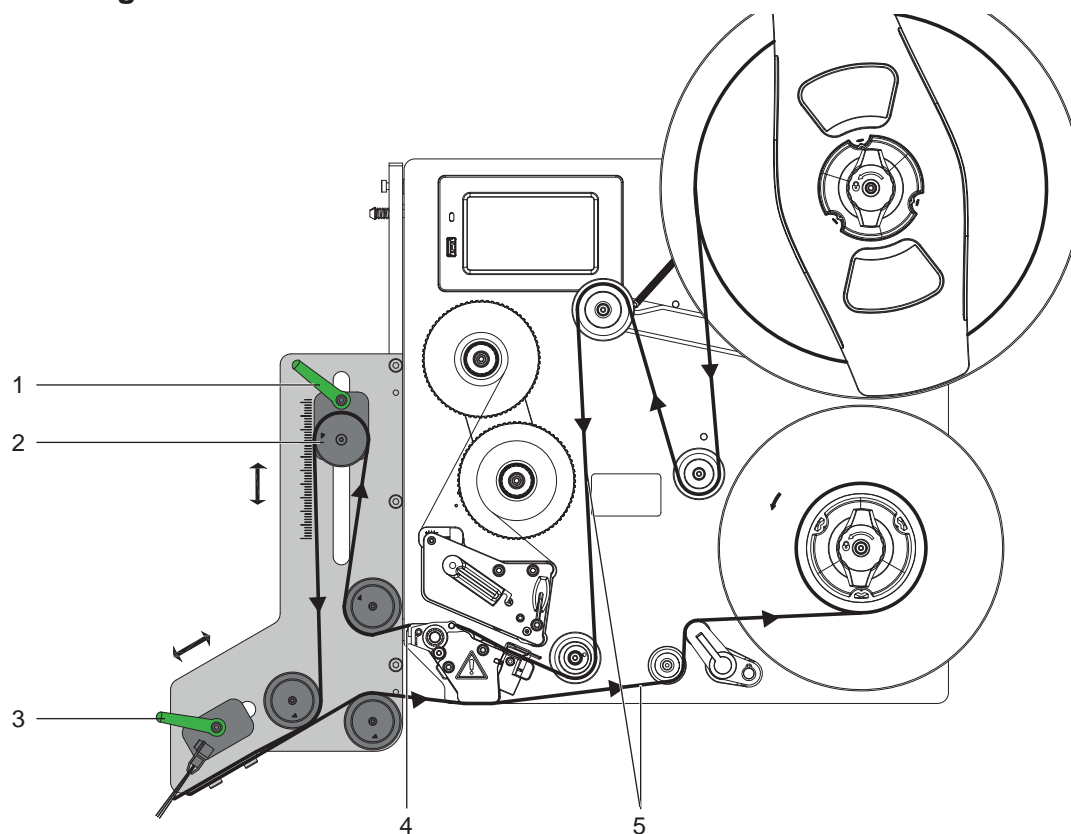

Fig. 3 Material flow of the printer and the Demand Module L
This applies for lever 1 and 3 of figures 3 and 4.
5. Guide the material (5) through the dispenser as displayed in Fig. 3/4.
6. Place the end of the backing material onto the rewinder of the printer as shown in the Operator's Manual (5) of the printer.